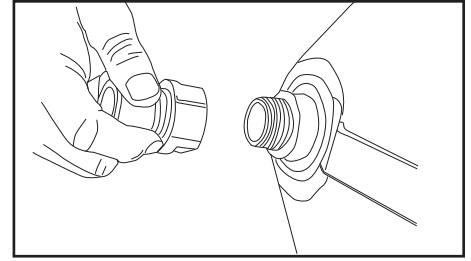

Fig. 3
- a. Attach the funnel coupler to the threaded neck on the funnel. **(See Fig. 3)**